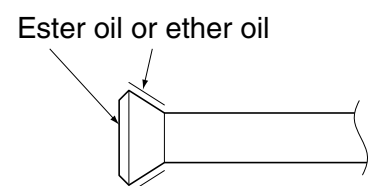

Fig. 13
- When connecting the flare nut, coat the flare section (both inside and outside) with ester oil or ether oil, rotate three or four times first, then screw in. (Refer to Fig. 13)